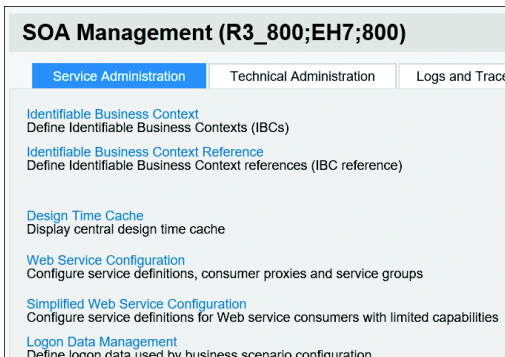
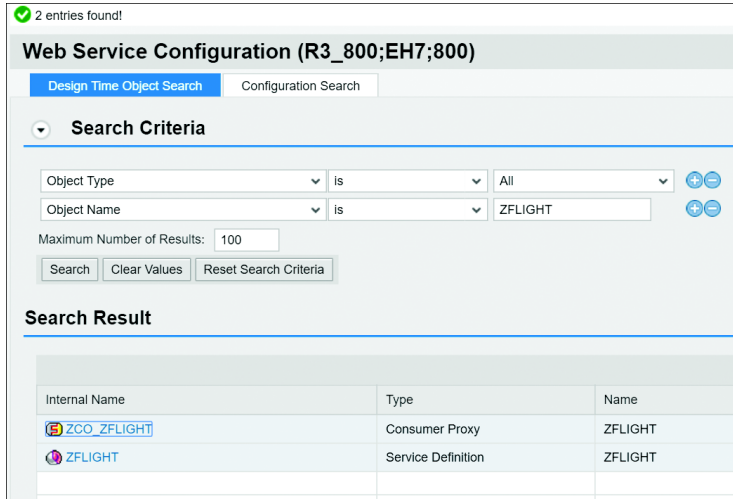

Figure 19.85 SOA Management
Figure 19.93 Search Consumer Proxies
- Open `Transaction SOAMANAGER` to launch the `SOA MANAGEMENT` application in your web browser. Under the `SERVICE ADMINISTRATION` tab, click the `SIMPLIFIED WEB SERVICE CONFIGURATION` link, as shown in Figure 19.85.
1. In Transaction SOAMANAGER, click on the WEB SERVICE CONFIGURATION link (see Figure 19.85) and search for the consumer proxy you just created (see Figure 19.93). If you provided a prefix to be used while creating the proxy, the same will be used as a prefix.